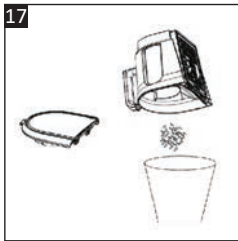

Fig. 17
2. Remove the dust bin and empty the content first (→ **EMPTYING THE DUST BIN**). (**Fig. 17**).